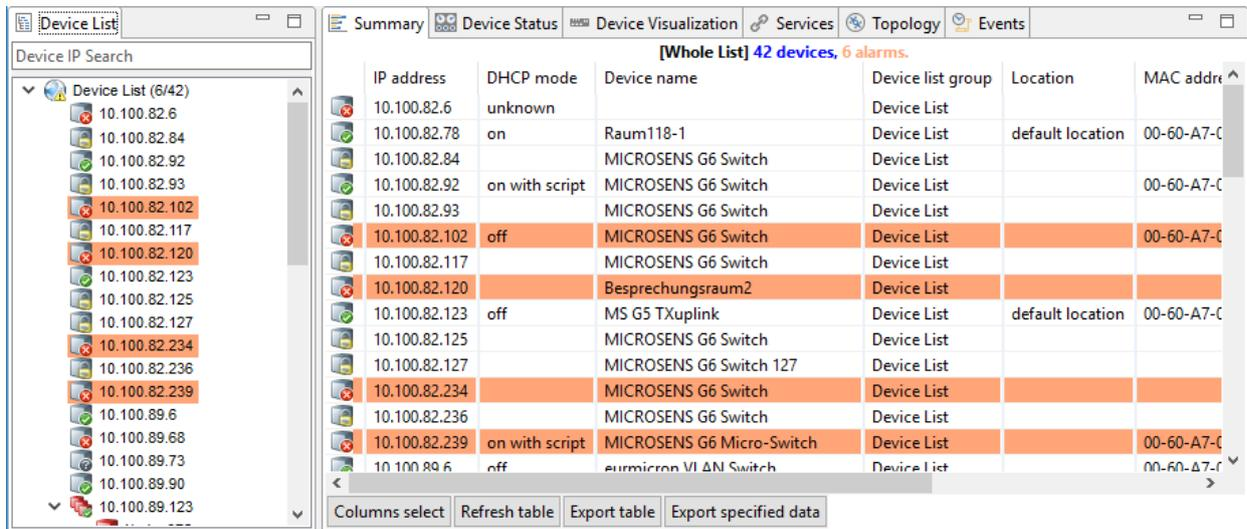

Figure 24. NMP Professional - Settings - Alarm Indicator (Example)
- **Enable blinking alarm indicator:** Devices which have generated a new alarm will blink red in the NMP device tree list and device statistics table (see Figure 24).